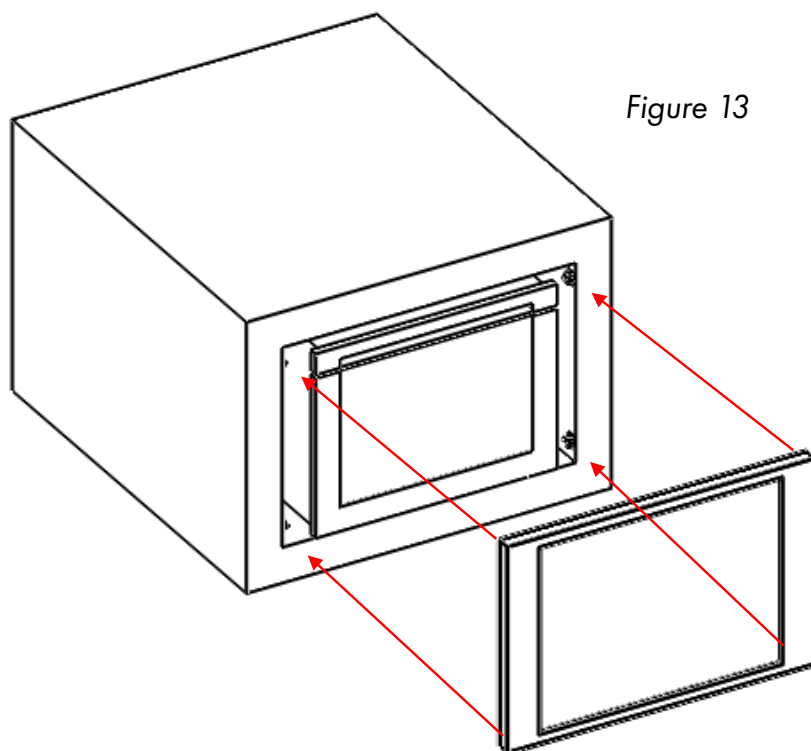
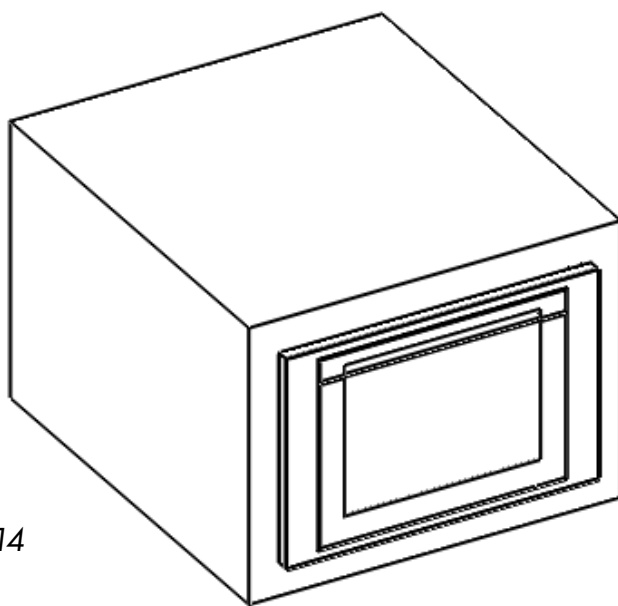

Figure 13
Figure 14
7. Insert the outer trim kit into the cutout (see *Figure 13*). Clip each buckle onto its corresponding buckle seat to complete the trim kit installation (see *Figure 14*).